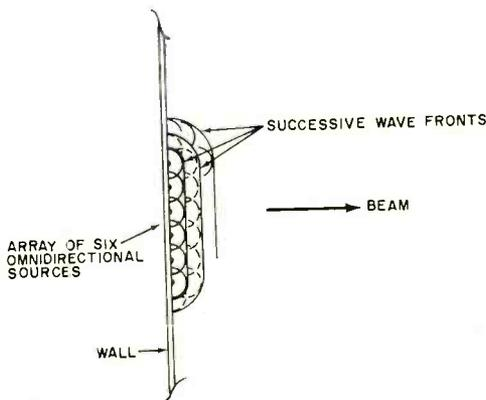

Fig. 2. Each point of a line type of radiator produces a spherical wave, with the latter combining to produce a narrow beam at high frequencies.
**Fallacy:** According to Huygen's principle, each point of a sound radiator can be considered as a point source producing spherical waves with the combined wavefront tangent to these spherical wavelets. In Fig. 2 is shown how an array of small sources produces a narrow beam of sound. This effect is used in sound reinforcement speakers (columns and line loudspeakers) to restrict the vertical spread of sound. The distribution angle is narrowed only for frequencies above the range in which the wavelength is comparable to the length of the source. So, for better horizontal distribution, stand an elliptical speaker so that its long axis is vertical.